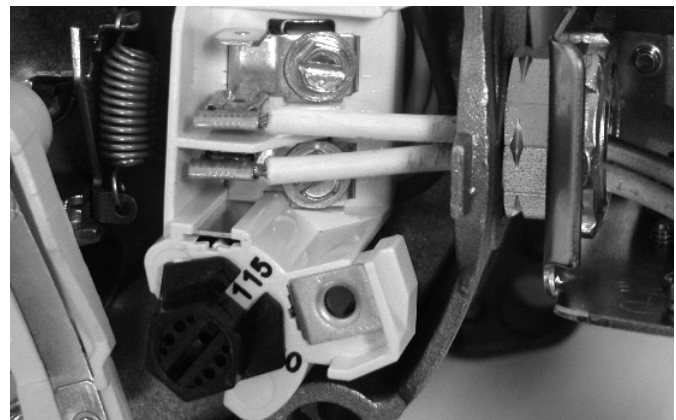

Figure 7: Voltage set to 115 volts, Dial Type
2. Turn the dial counter-clockwise until 115 shows in the dial window as shown in Figure 7.